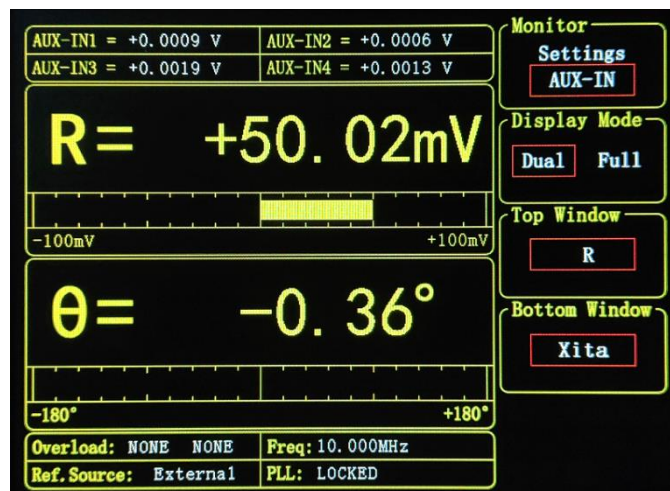

Fig.28 <AUX-IN> Interface
- <AUX-IN> The real-time input amplitude of the four BNCs of the current rear panel AUX-IN is displayed in the status bar at the top left of the LCD. The interface is shown in Figure 28.